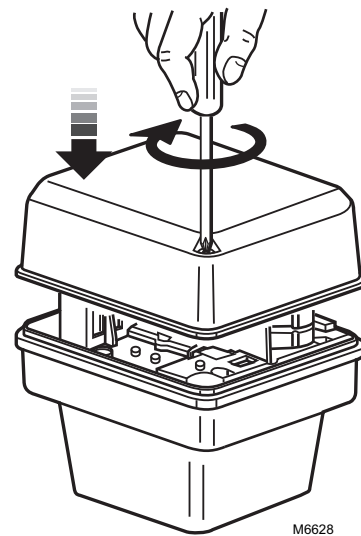

Fig. 14. Replacing Actuator Cover.
3. When wiring is complete, replace the cover on the actuator (Refer to Fig. 14).